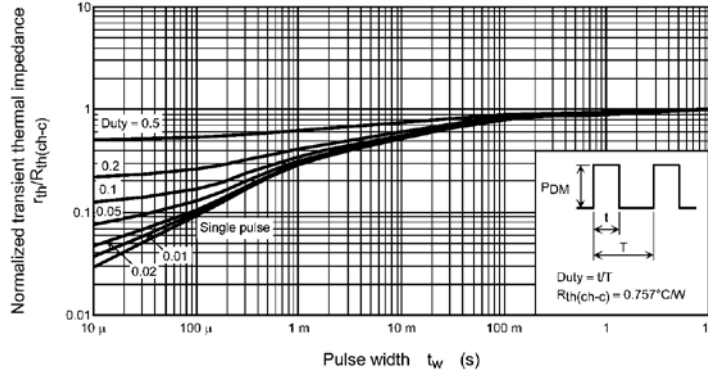

Figure 1.4. Transient Thermal Resistance Curves
Figure 1.4 shows an example of typical transient thermal resistance characteristics. Suppose that a single rectangular pulse (with a pulse width of T_1 and a peak power loss of P_0) is applied. From the figure, we read the transient thermal resistance at a pulse width of T_1 , $r_{th}(T_1)$, and then use Equation (7) to calculate T_{chpeak} .